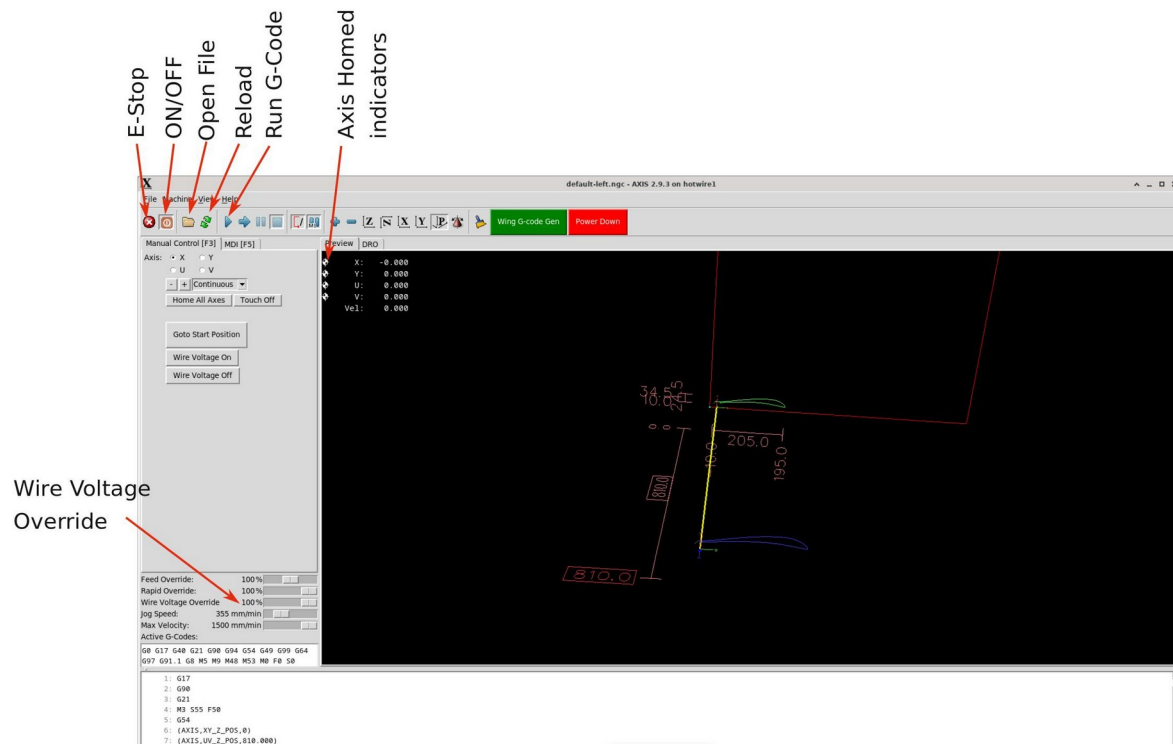

Figure 2: AXIS GUI
4. Click on the red E-Stop screen button (see Figure 2) and On/Off button to turn on controller.